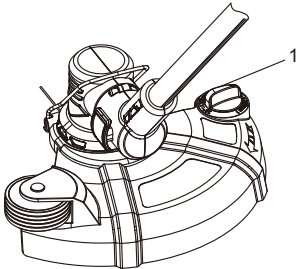

Fig. 11
3. Rotate the trimmer head so the trimmer line is facing away from your body and the edging wheels are down (Fig. 11).